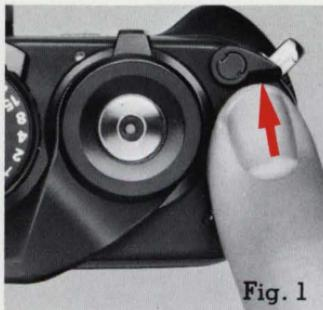
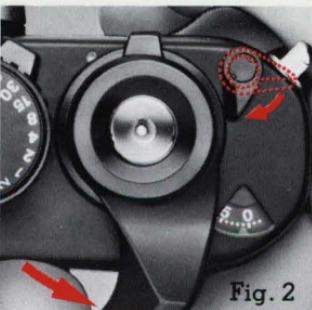

Fig. 1
Fig. 2
When there is a substantial difference between the main subject and the background, unimportant bright spots or dark spots are likely to fool the camera's metering, resulting in under- or overexposure (see Fig. 1). One way to make exposure compensation is to use the memory lock. This control allows you to lock in an exposure reading with the camera on automatic control. To compensate for an excessively bright or dark background, center the main subject in the viewfinder or move in close to the subject, depress the memory lock button and hold it in; then recompose and shoot (see Fig. 2).
(Fig. 1)
(Fig. 2)
2. Then to recock the shutter without advancing the film, push the multiple exposure lever forward (Fig. 1), and stroke the advance lever. Immediately the multiple exposure lever will spring back to its normal position (Fig. 2).